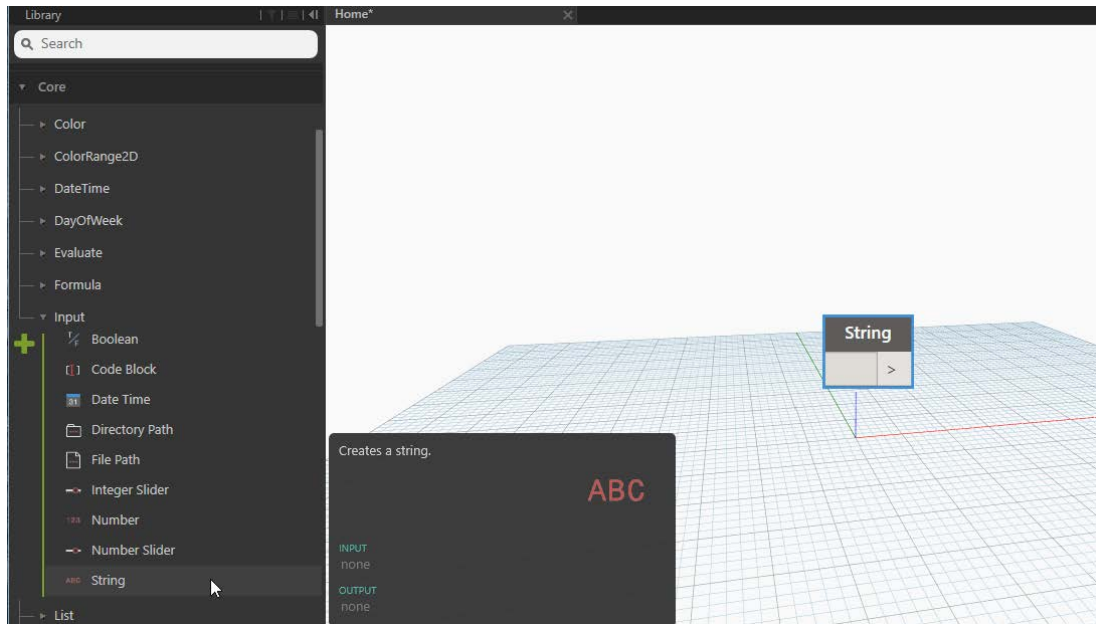

Figure 12
8. Click the *String* node to add it to the canvas (see Figure 12).